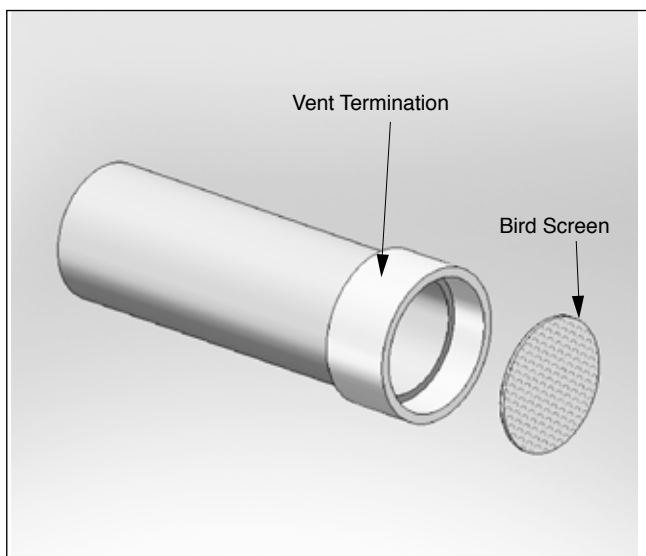
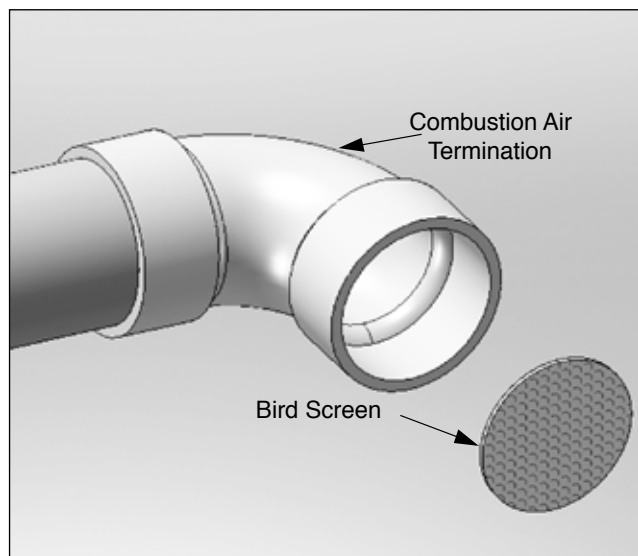

Fig. 9 - Sidewall Vent Bird Screen Installation
Fig. 10 - Sidewall Combustion Air Bird Screen Installation
1. The vent and combustion air terminations must include a factory supplied "bird screen" installed as shown in **Fig. 9 and Fig. 10 on page 18**.
1. The vent and combustion air terminations must include a factory supplied "bird screen" installed as shown in *Fig. 3 on page 14* & *Fig. 10 on page 18*.